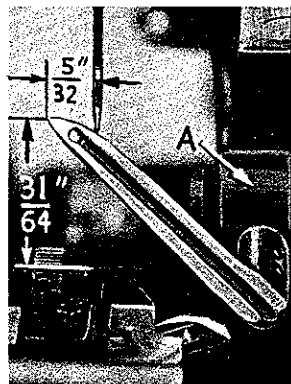

Fig. 10
Next turn handwheel until upper looper is at the left end of its travel; check dimensions of upper looper point from needle and throat plate (Fig. 10). If resetting is necessary, do it by moving upper looper holder (A, Fig. 10). For example: dimension  $\frac{31}{64}$  inch is increased by turning upper looper holder counter-clockwise looking from left end of machine; and dimension  $\frac{5}{32}$  inch is increased by pulling upper looper holder left, out of upper looper shaft. After these changes are made it may be necessary to turn upper looper around its shank slightly to maintain the condition shown in (Fig. 9).
If it becomes necessary to move looper thread pull-off (T) be sure to take up all end play in needle drive shaft before tightening. If upper looper is located so that it is higher over throat plate than recommended in (Fig. 10), the purl will tend to form near top edge. If upper looper is too low, the purl will form nearer bottom edge.